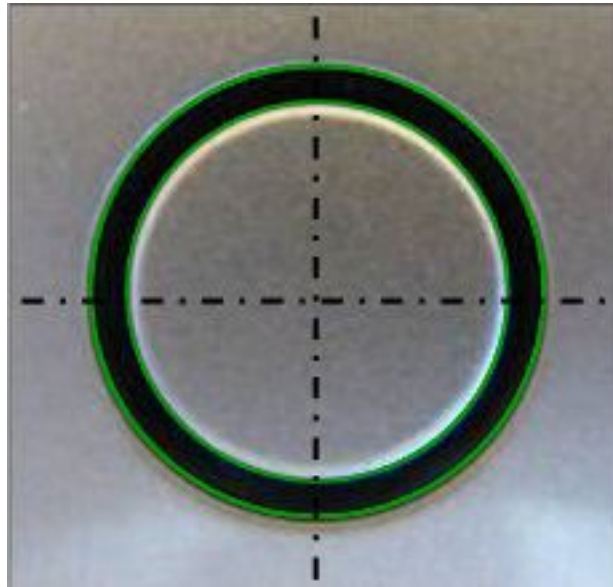

Figure 8. A correctly centered parking aid sensor.
6. Verify that the sensor is centered inside of the mounting hole (Figures 8 - 9). If the sensor is mounted off-center, remove the bumper and reinstall the sensor.